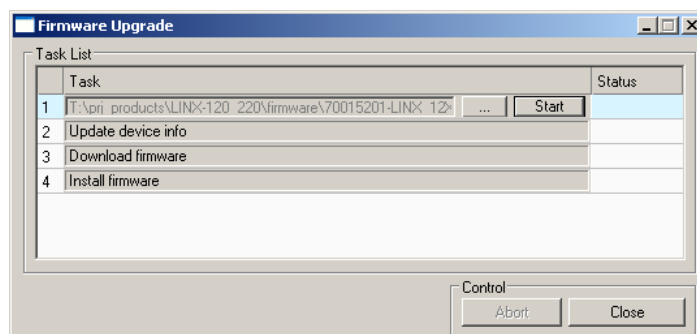

Figure 252: Firmware Update dialog of the Configurator.
8. This opens the **Firmware Update** dialog as shown in Figure 252. Click on the button  and select the firmware image.